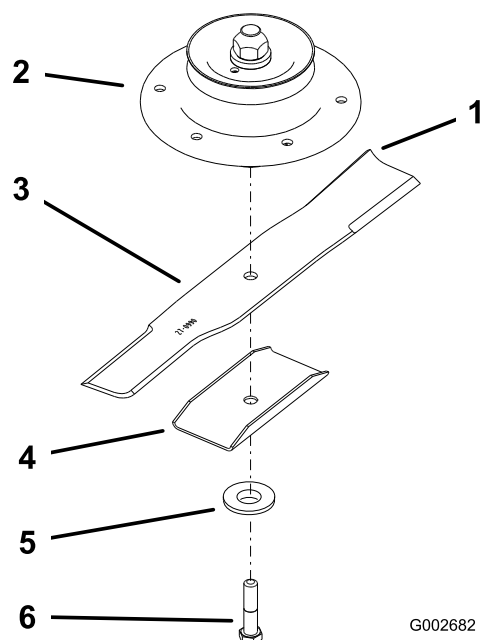
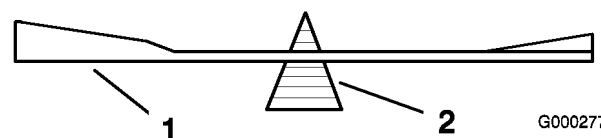

Figure 56
Figure 58
2. Remove the blade bolt, blade stiffener, washer, and blade from the spindle shaft (Figure 56).
2. Check the balance of the blade by putting it on a blade balancer (Figure 58). If the blade stays in a horizontal position, the blade is balanced and can be used. If the blade is not balanced, file some metal off the end of the sail area only (Figure 56). Repeat this procedure until the blade is balanced.
1. Install the blade onto the spindle shaft (Figure 56).
Important: The sail part of the blade must be pointing upward, toward the inside of the mower to ensure proper cutting (Figure 56).
2. Install the blade stiffener, flat washer and blade bolt (Figure 56).